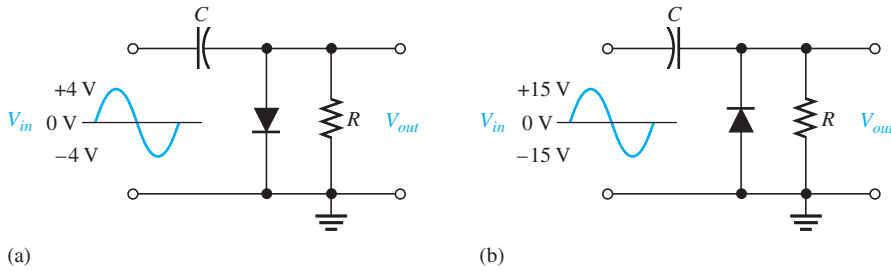

FIGURE 2-77
Refer to Figure 2-77(a).
13. Describe the output waveform of each circuit in Figure 2-77. Assume that the RC time constant is much greater than the period of the input.